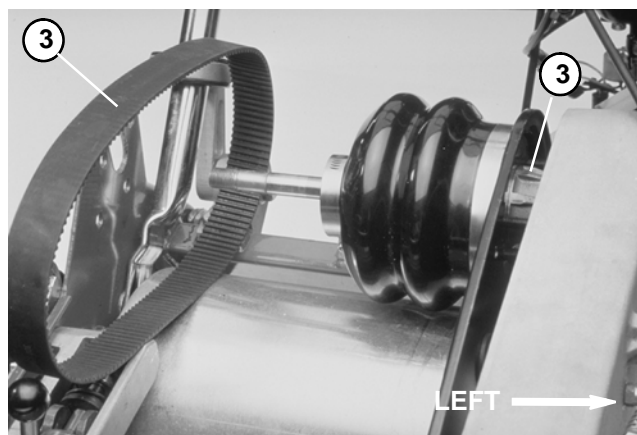

Figure 62
15. Slide differential assembly to the left to allow removal of the belt without bending or twisting. Remove old belt from the differential pulley and countershaft pulley (Fig. 62).
2. Install new belt to the differential pulley and counter-shaft pulley. Slide differential assembly to the right side plate (Fig. 62).